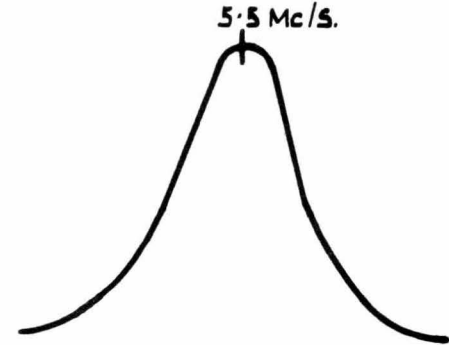

FIG. 6.
4. Connect the sweep generator to test point No. 3 the grid (pin 2) of the 4th IF amplifier tube V6 and the oscilloscope to observe the response at test point No. 5. With the generator set to give a sweep width of approx. 1 megacycle per second, the ideal response curve is shown in fig. 6 and shows symmetry about the 5.5 Mc/s marker.